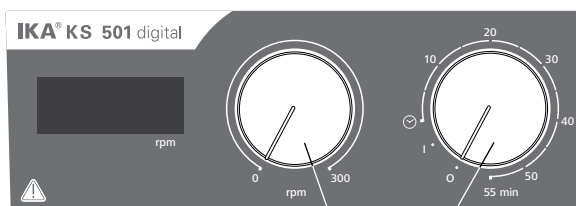

Fig. 3
- ⇒ To switch the device on, turn the "**On/Off**" and "**Timer**" rotary knob (**B**, see **Fig. 3**) clockwise to the "**1**" position.
- ⇒ Set the motor speed by turning the "**Speed**" rotary knob (**C**, see **Fig. 3**). The motor speed can be set to between 0 to 300 rpm.